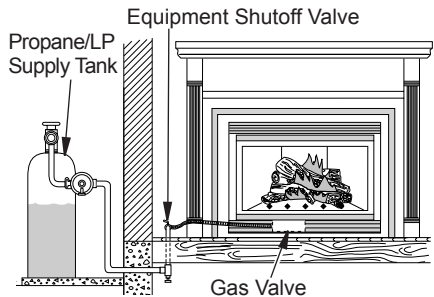
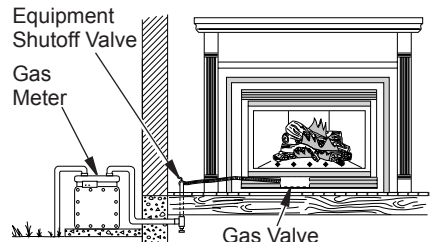

Figure 34 - Checking Gas Joints for Propane/LP Gas Fireplace
Figure 35 - Checking Gas Joints for Natural Gas Fireplace
3. Check all joints from propane/LP supply tank or gas meter to equipment shutoff valve (see Figure 34 or Figure 35). Apply noncorrosive leak detection fluid to all joints. Bubbles forming show a leak. Correct all leaks at once.
4. Check all joints from equipment shutoff valve to gas valve (see Figure 34, page 23, for propane/LP or Figure 35, page 23, for natural gas). Apply noncorrosive leak detection fluid to all joints. Bubbles forming show a leak. Correct all leaks at once.